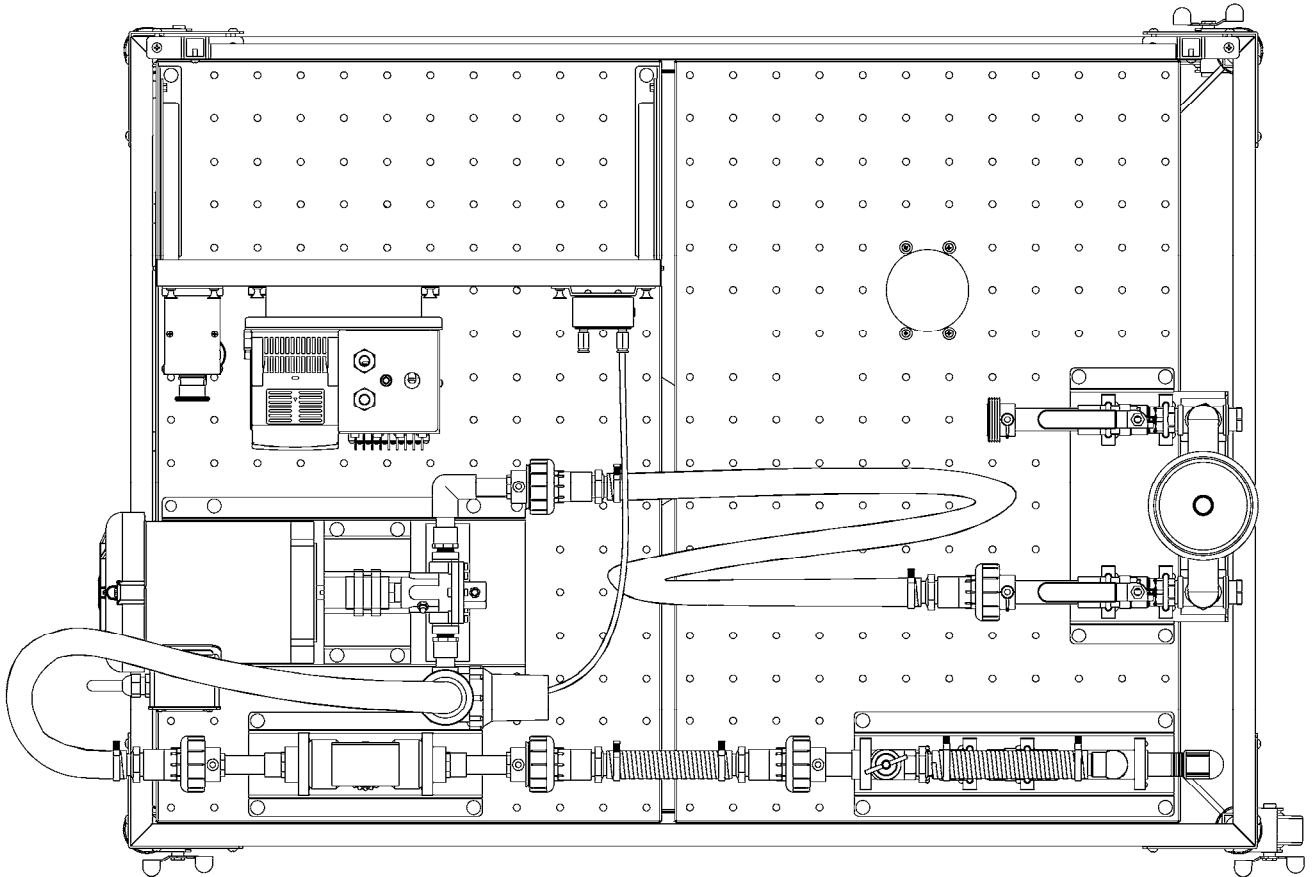

Figure 1-5. Pumping circuit using the External Gear Pump.
- 10. Set up the pumping circuit shown in Figure 1-5.